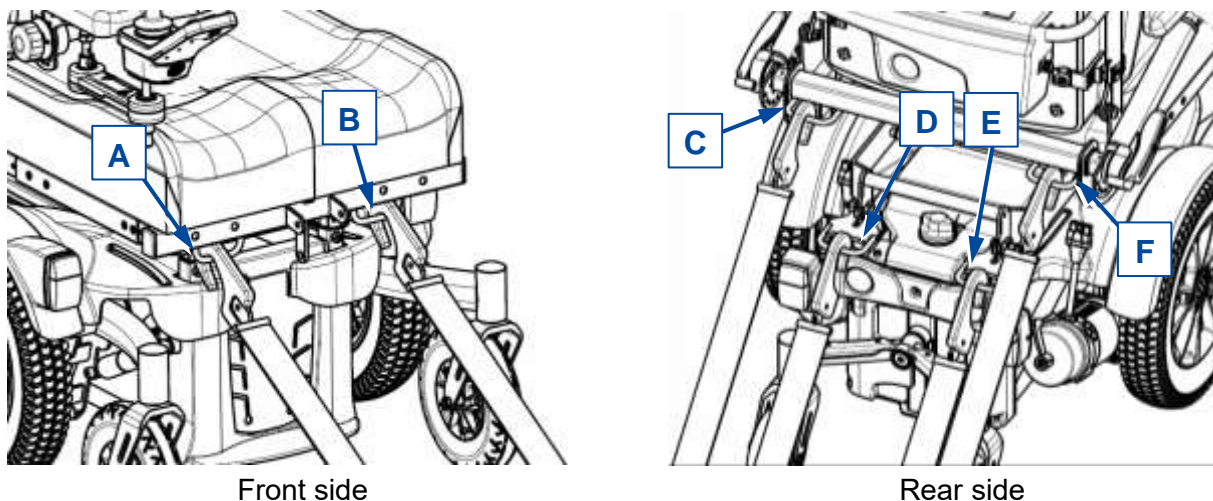

Figure 4 **Securement points**
4. If luggage and passenger compartments are NOT separated or enclosed, fasten the wheelchair frame securely to the vehicle using the six-points strap-tie-down system (see Figure 4).
10. Attach the front securement-strap hooks to the securement points (A+B) on the wheelchair following the supplier instructions of the strap-system, see Figure 4.